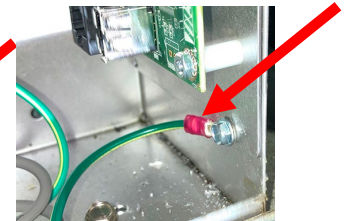

Figure 10
9. Cut or disconnect the green ground wire of the harness from the box (see Figure 10).